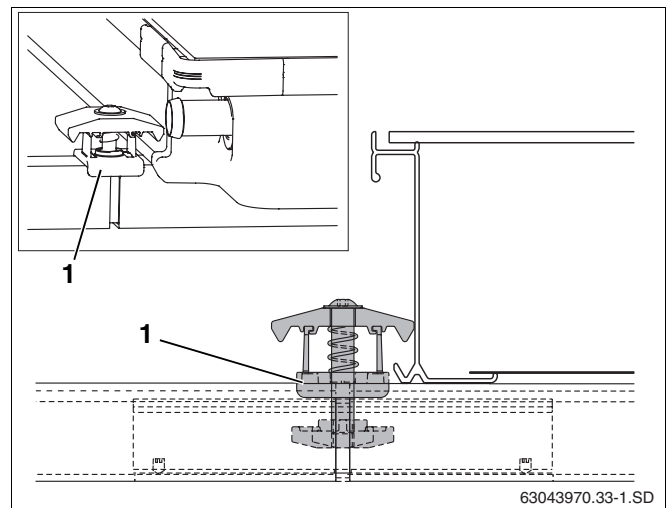

Fig. 48 Fitting a double-sided collector clamp
- ▶ Insert the double-sided collector clamp, nut first, into the opening made by the profile rail and plug connector so that the plastic spacer (Fig. 48, **Item 1**) surrounds the profile rail.